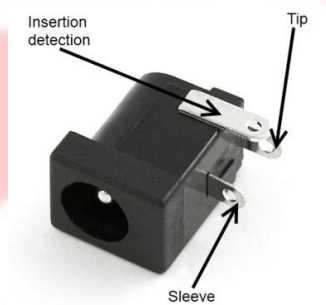
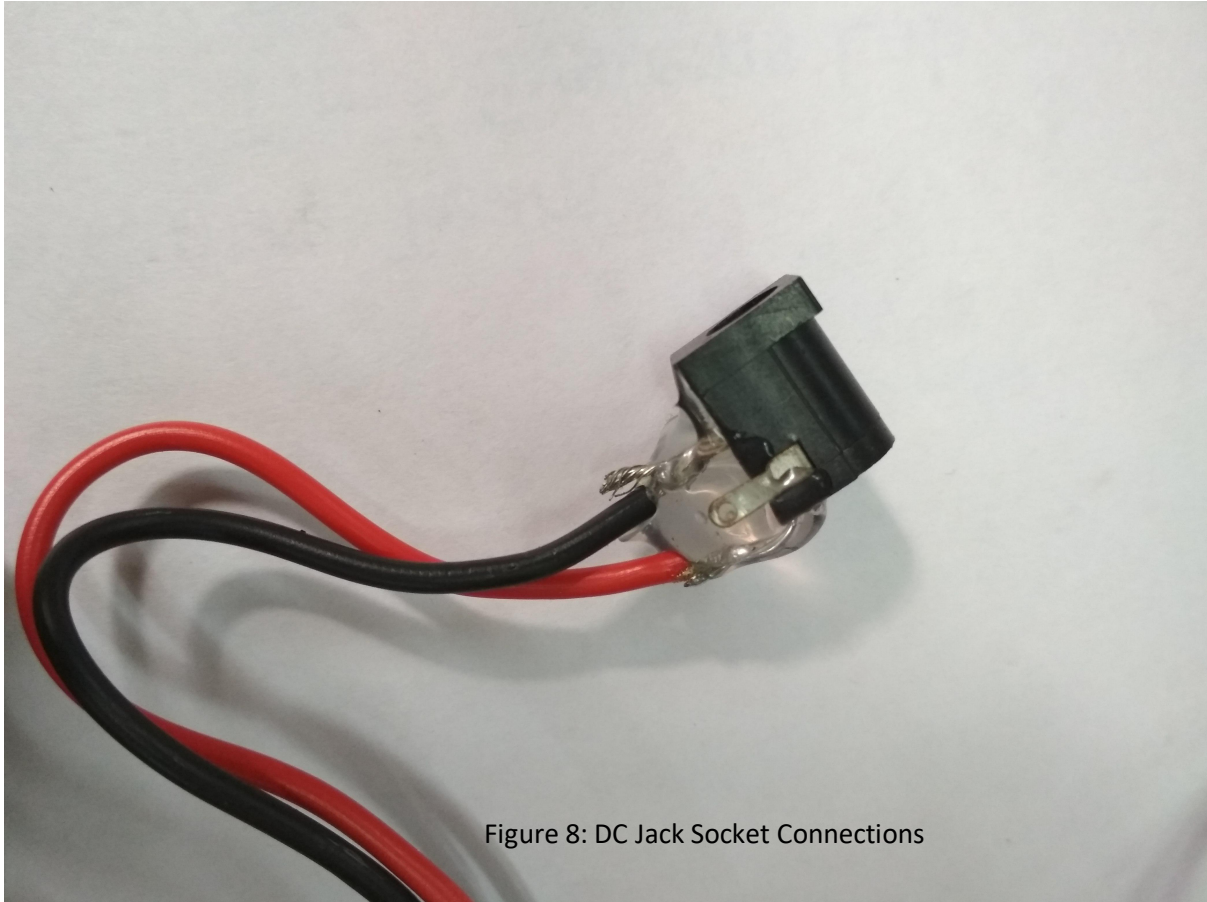

Figure 2: DC Jack Socket
Figure 8: DC Jack Socket Connections
3. Solder the cables to the DC Jack Socket as shown in Figure 8 below, connect the positive cable (Red Colour) to the Tip (Figure 2) and negative cable (Black Colour) to the Sleeve